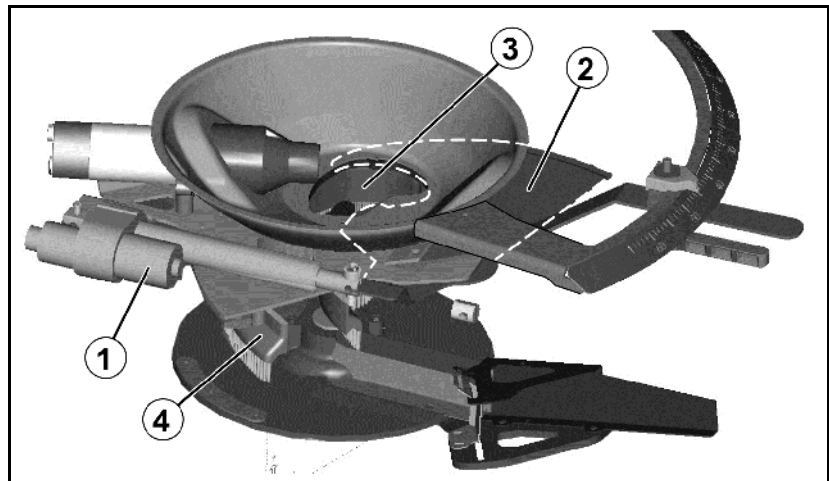

Fig. 18
5. Place the PTO shaft in the holder provided (Fig. 18).